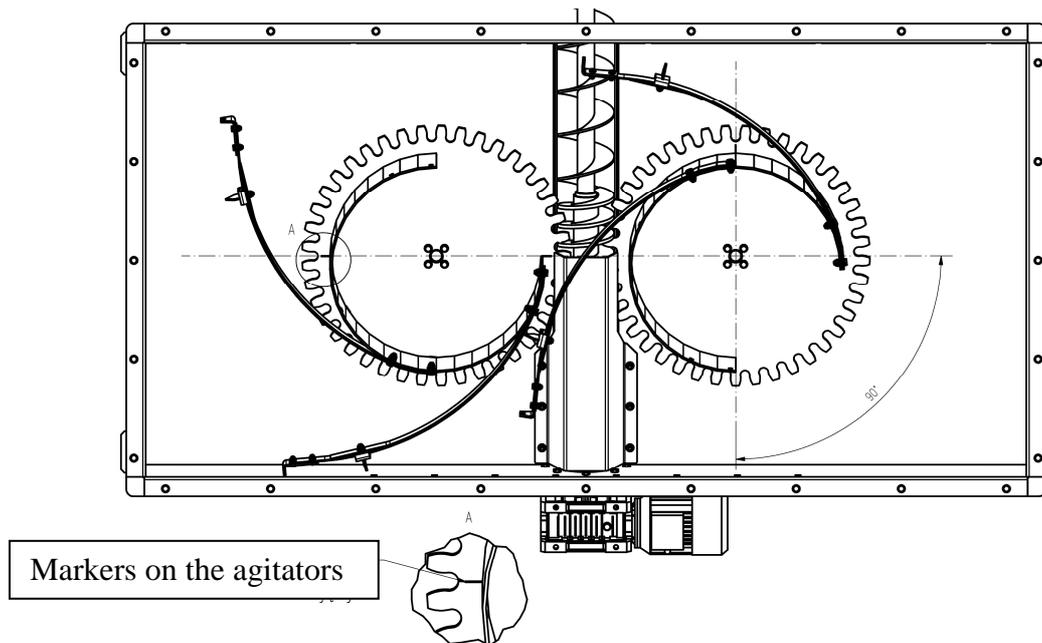

Fig. 2.2 Placement of agitators in the container, sets larger than 120 kW.
- b. In sets larger than 120 kW, the agitators should be placed so that the lines made by the markers on the agitators meet perpendicularly the spring arms are placed like in fig. 2.2.